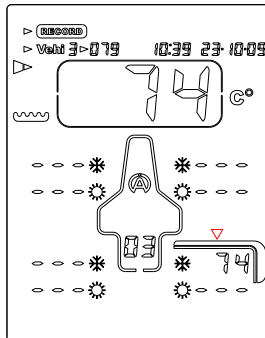

Figure 5
6) Press the central button  to record the measured pressure as well as the hour and the date of the moment, then, the point of capture displayed to the screen moves automatically following the sequence programmed in the menu SETUP. In the example (figure 5), the device positions itself on the measure of the temperature in the center of the left rear tyre.
- 7) Apply the sensor of temperature on the tyre as indicated on the screen by the arrow (figure 5).